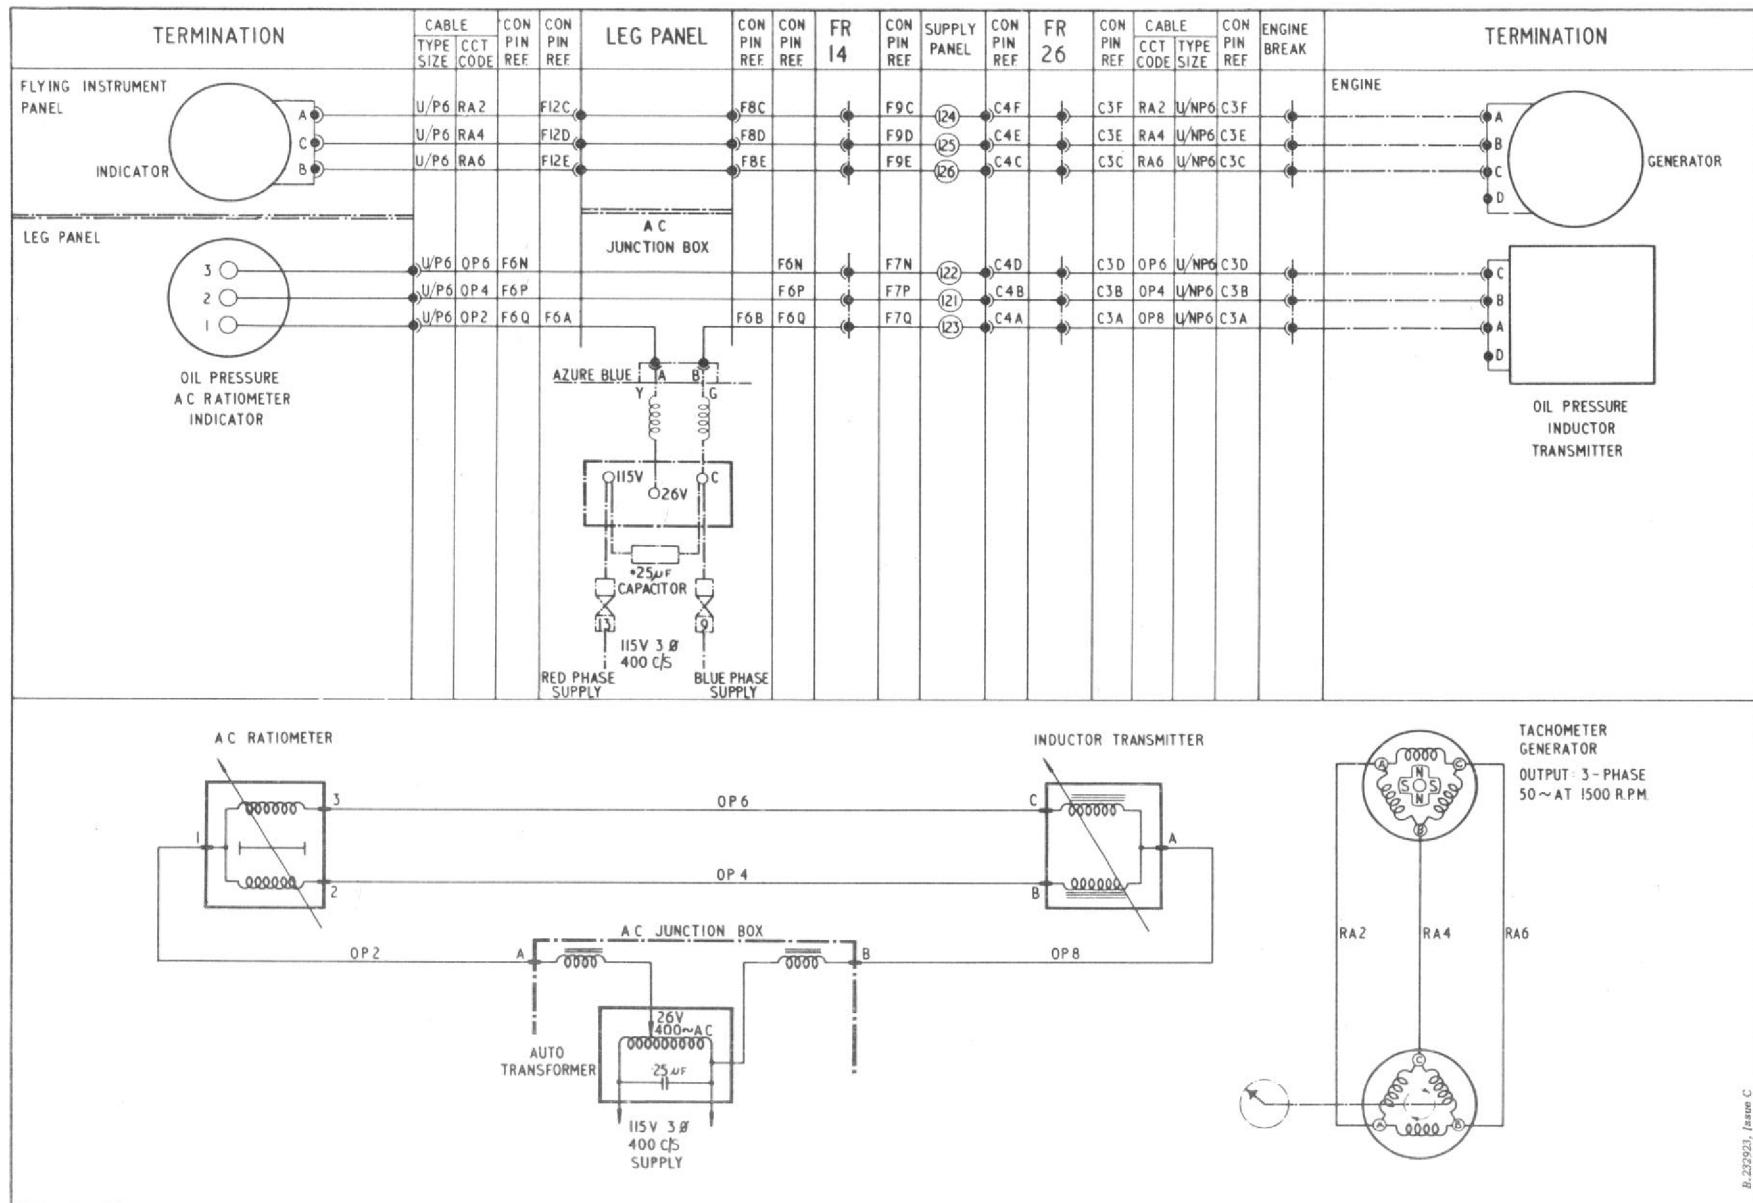

Fig.1 Oil pressure indicator and tachometer (routeing and theoretical)
in fig.1 of this group. For the principle of operation and a detailed description of the instrument, reference should be made to the Air Publication quoted in para.2 of this group.
4. This is an electrically-operated indicator situated on the flying instrument panel and supplied with current from an engine-driven tachometer generator located on the engine wheelcase. The indicator and generator form a closed circuit as shown on the routeing and theoretical diagram given in fig.1. A detailed description of the tachometer equipment, together with the principle of operation will be